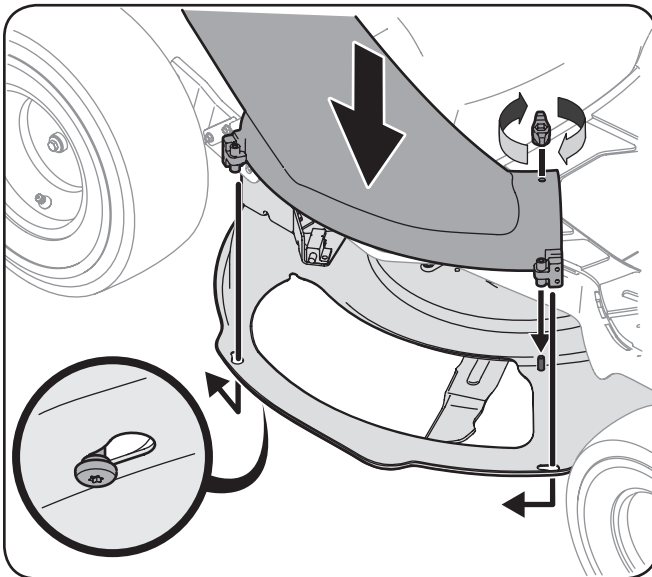

Figure 4-6
8. Remove the deck chute, or mulch plug, and mount the bagger chute tube to the deck of the tractor by feeding the two pins on the chute tube elbow into the large end of the keyhole-openings provided in the unit's mowing deck. Slide the deck chute assembly rearward to lock into place, being sure to engage the safety interlock switch. See Fig. 4-6.